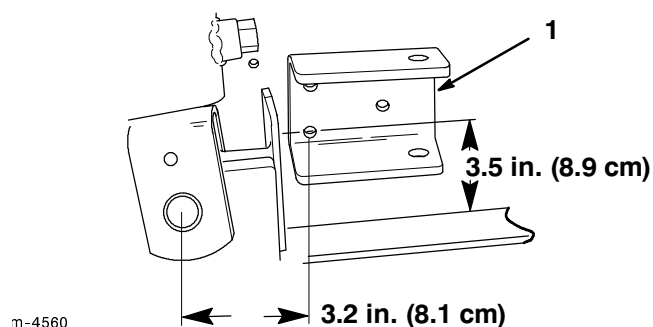

Figure 3
3. Line up the side bar bracket as illustrated in Figure 3 and mark the centers of the three holes (you may need to adjust the position of the bracket slightly so that the bracket and back-plate do not interfere with weldments on the traction unit).